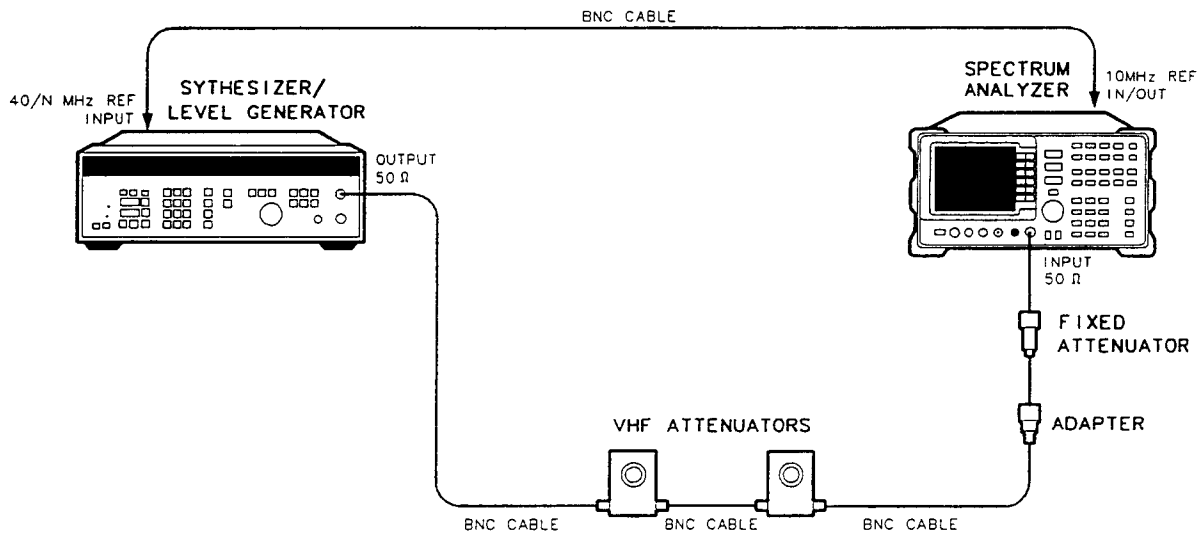

Figure 3-10. Scale Fidelity Test Setup
1. Connect the equipment as shown in Figure 3-10. The spectrum analyzer provides the frequency reference for the HP 3335A.